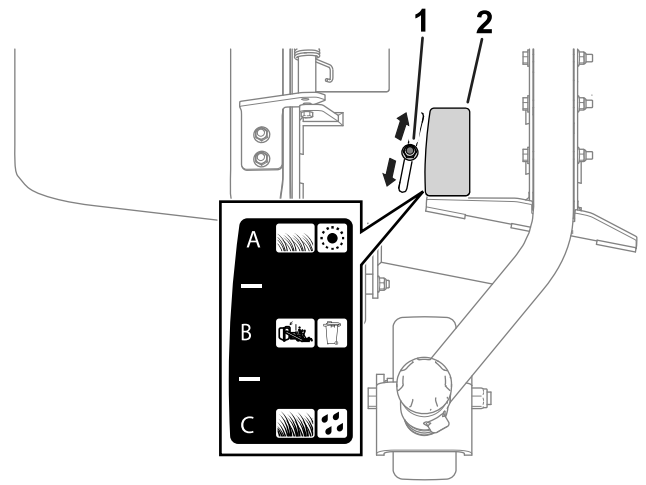

Figure 16
2. Loosen the nut (Figure 16).
Refer to the following sections for a description of each flow-baffle position. Figure 16 illustrates each position (i.e., A, B, and C) as seen on the decal.